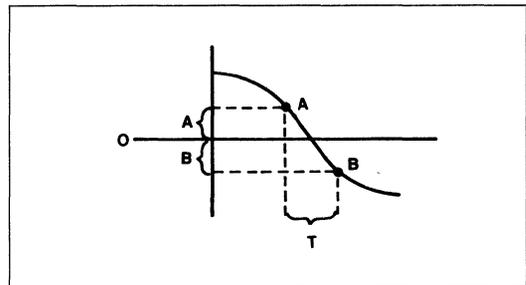

Figure 3. Samples of Zero Crossing
4. Access codes F1 and 71 represent limits on acceptable zero crossings for use by the carrier recovery loop. The carrier recovery loop uses several nonlinear controls in attempting to lock the zero crossings of the local carrier to those of the transmitter. Since Group 2 facsimile uses VSB transmission, it is necessary to either reconstruct the upper sideband or exclude those zero crossings that represent frequencies other than 2100 Hz. The R96F excludes unwanted zero crossings by testing the effective slope of the waveform as it crosses zero. In Figure 3, points A and B represent samples taken about a zero crossing over sample period T, where $T = 1/10,368$ seconds.